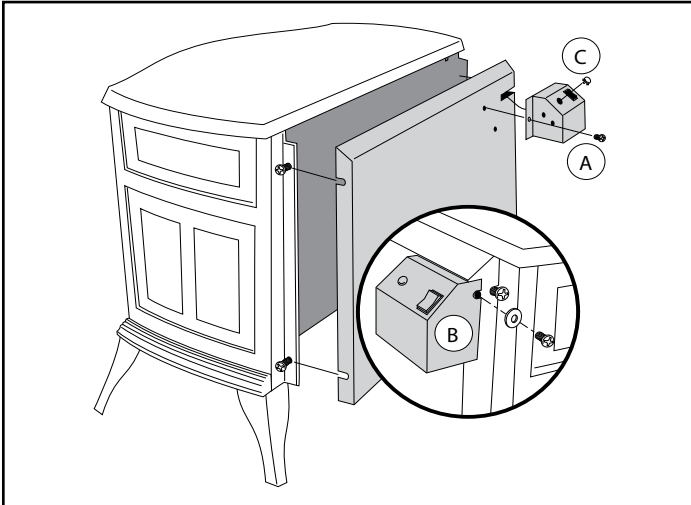

Figure 10 - Remove rear shroud and switch box.
1. Remove the rear shroud. Use work gloves to protect against sharp edges. Loosen the two (2) screws on each side just enough to disengage the shroud panel from the sides of the stove. (Figure 10)
2. Remove the switch box. (Figure 10)
3. Install the fan mounting bracket to the blower assembly with two (2) 1/4-20 X 3/4" hex head screws and one of the 1/4" star washers. (Refer to Page 1)
4. Secure the fan assembly to the bottom plate through the mounting bracket with the other two (2) 1/4-20 x 3/4" hex head screws and the remaining 1/4" star washer. (Figure 10)